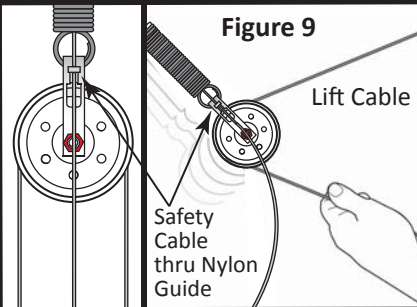

Figure 9
Step 9: Run the Lifting Cable back to the Pulley attached to the spring and loop the cable over the top, going through the Sheave (Fig 9).
Step 6: Attach the other end of the Extension Spring(s) to the right side Eye bolt (Figure 9).
Step 10: Run the Lifting Cable back to the Pulley attached to the spring and loop the cable under the pulley, going through the Sheave (Figure 9).